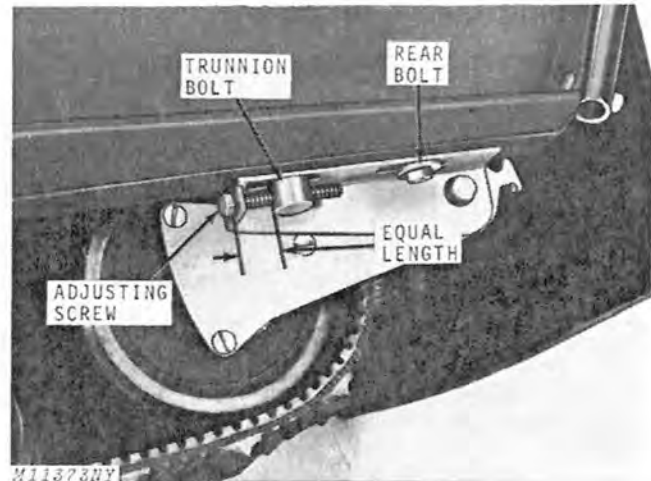

Fig. 32-Trunnion Bolt and Adjusting Screw
1. Loosen trunnion bolt and rear bolt on both sides of snowmobile, Fig. 32.